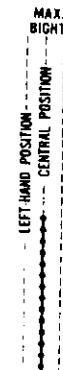

Fig. 203
**STITCHING:** Straight stitching **midway between two extremes of maximum bight**, as shown in **Fig. 203.**